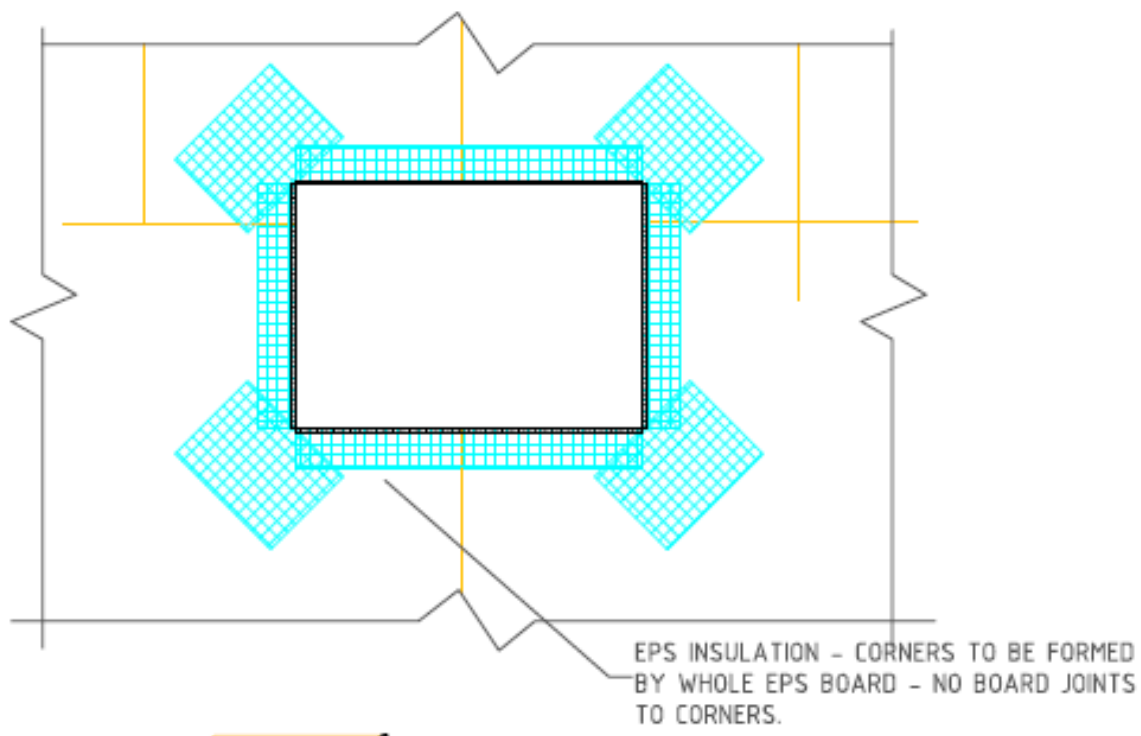

Figure 4a: Detailing of mesh around openings
2. Detail mesh shall be attached around the perimeter of the opening as illustrated in Figures 4a and 4b and as described in Section V.A.
5. Corners of all openings such as windows, doors, mechanical equipment and all penetrations shall be reinforced with 330 mm x 300 mm section of Detail mesh placed diagonally to the opening as illustrated in Figures 4a and 4b. This will reduce the potential for cracking at these high stress areas